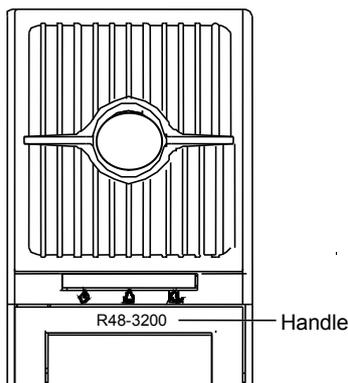

Figure 2-3 Rectifier handle position
1. Press the handle (see Figure 2-3) of the rectifier on the front panel, and the handle will pop out.